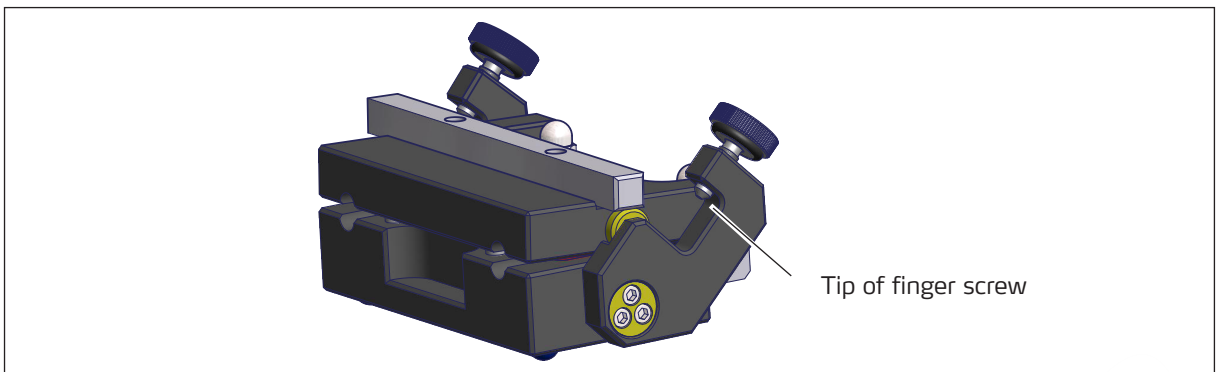

Fig. 5. Opening the RA0301.
1. If the lid is closed, unscrew the two finger screws until only 2-3 millimeters of the tip is visible at the underside of the lid, as shown in Fig. 5.